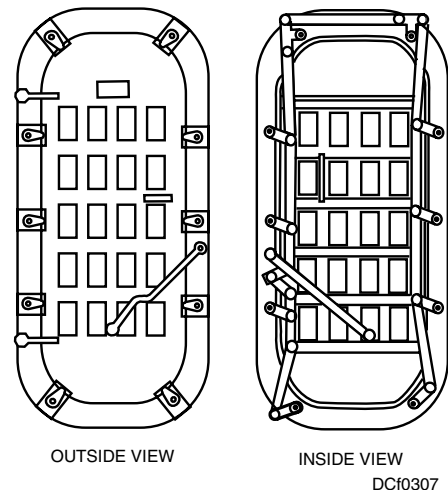

Figure 3-7. Quick-acting watertight door.
The following list and illustrations (figs. 3-7 through 3-10) provide information on four of the many types of watertight closures on a ship. For more detailed information, refer to NAVSEA Publication S9169-AW-DCB-010.
1. Quick-Acting Watertight Door (fig. 3-7)—Used for routine passage and access/egress into superstructure from weatherdecks, main passageways, or manned spaces, such as Combat Information Center, Radio Central, Machinery Room, or Damage Control Central. These doors are usually placed in high traffic areas.